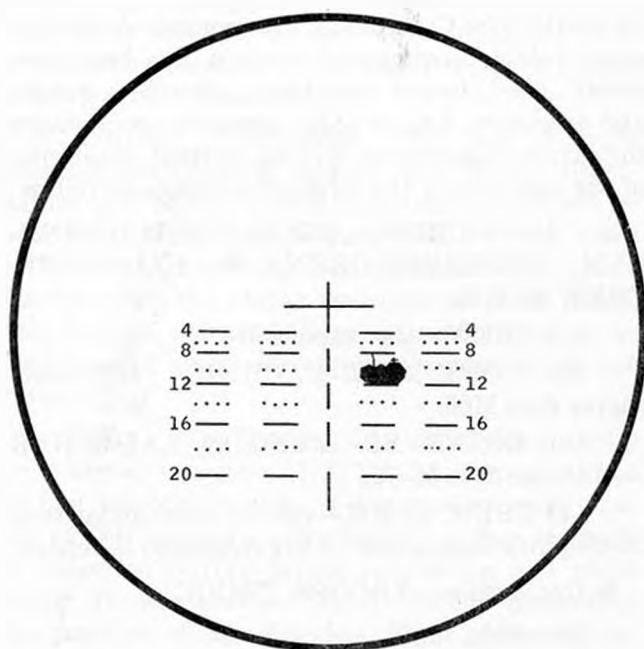

Figure 28. Stationary target, second round sight picture.
(2) The gunner mentally noted the point on the sight reticle where the burst appeared and, with the cupola controls, moved that point to the center of the target (fig 28). He fired a second round and obtained a target hit.